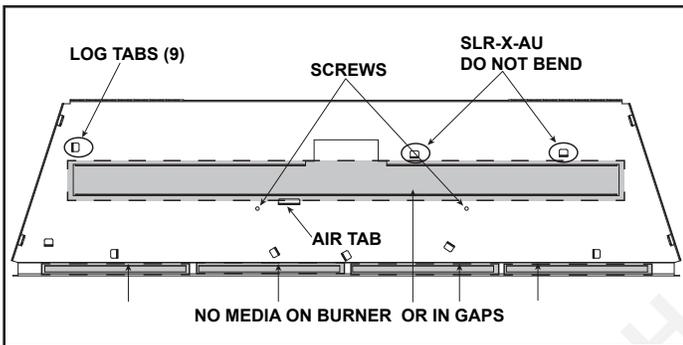
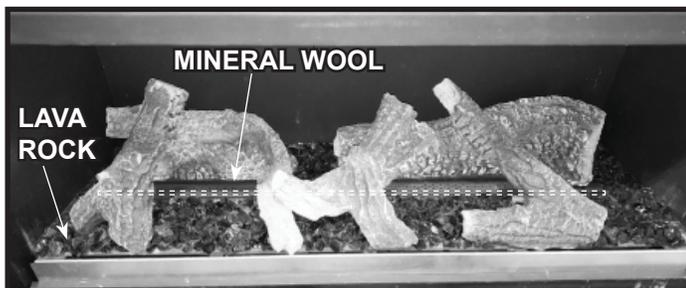

Figure 3. COSMO42-IFT Empty Base Pan
Figure 11. Properly Placed Lava Rock / Location for Mineral Wool
- COSMO42-IFT:** Bend 9 tabs and bend air tab. See Figure 3.
- SLR-X-AU:** Bend 7 tabs. Do not bend the two right rear tabs or the air tab. See Figure 3.
- Place lava rock onto areas of the base pan to fill in around the logs as desired. It is acceptable to completely cover the base pan. DO NOT cover burner, gaps behind burner, air tab, or block the space in front of the pilot assembly. See Figure 3. Place lava rock in a single layer so no sheet metal is showing. Figure 11 shows lava rock properly placed in relation to logs and areas that must be avoided.